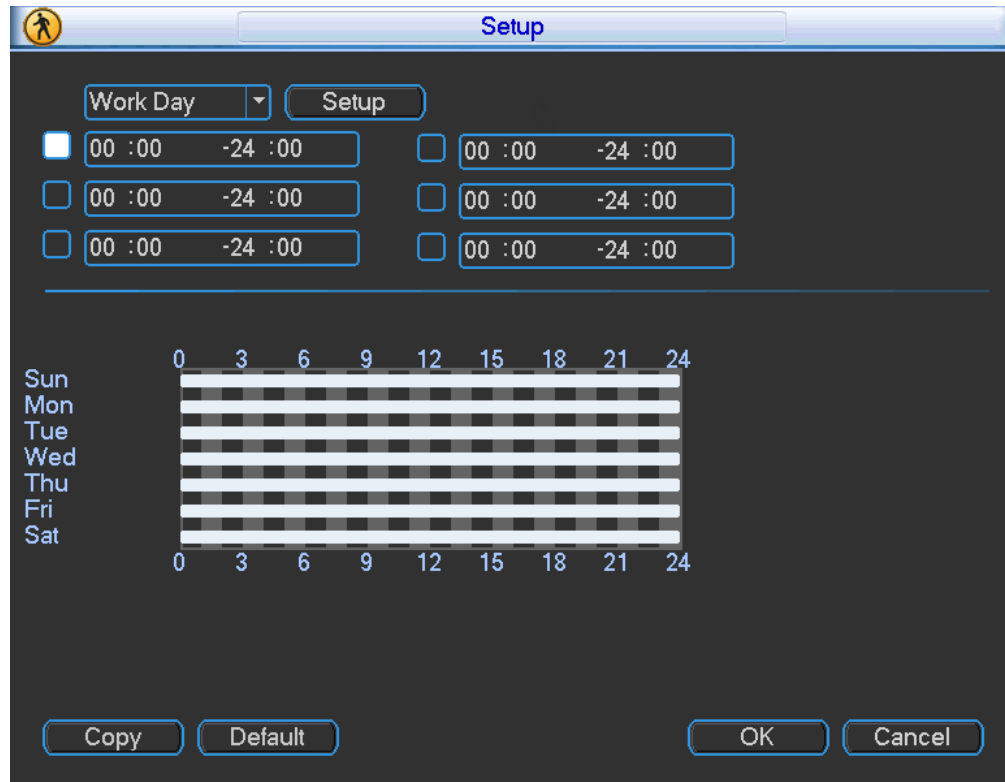
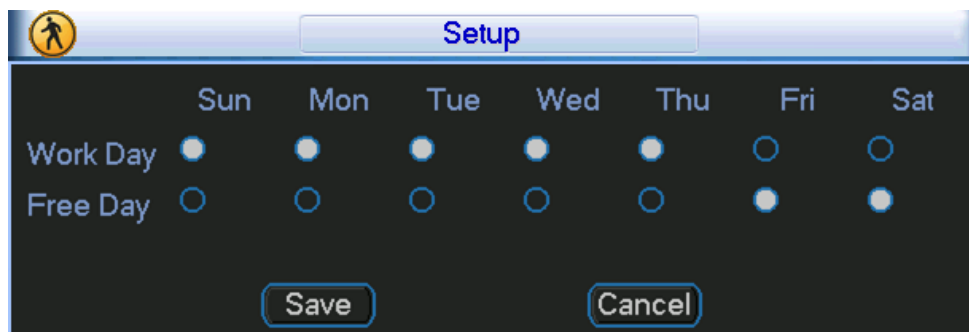

Figure 3-69
Figure 3-70
Click the **Setup** button. The Setup dialog opens, as shown in Figure 3-69. Here you can set the time period when detection is enabled. Select **Sunday to Saturday** from the dropdown list. Be sure to check the box to the left of the period to enable it. To set your own business day and non-business days, select work day or non-work day from the drop down list, and then click the **Setup** button. See Figure 3-70. For example, you can set Monday to Friday as working days and Saturday and Sunday as non-working days. Click the **Save** button to return to the previous screen.
14. Select **Save** to return to the Setup screen (Figure 3-69). Six periods appear for you to set for each day.
9. Select **Save** to return to the Setup screen (Figure 3-69). Six periods appear for you to set for each day.
- Select **Save** to return to the Setup screen (Figure 3-69). Six periods appear for you to set for each day.